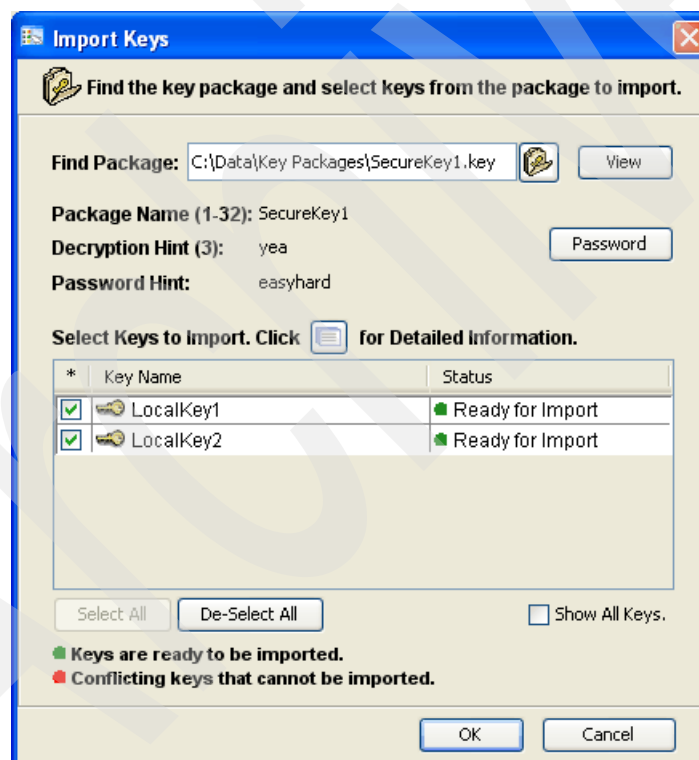

Figure 12-80 Import key window
3. When the Import Keys window is displayed (Figure 12-80 on page 430), perform the following steps: